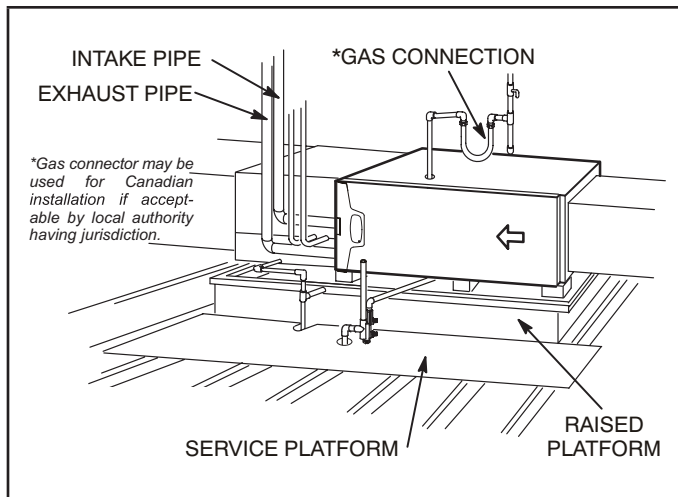

Figure 19
This furnace may be installed in either an attic or a crawlspace. Either suspend the furnace from roof rafters or floor joists, as shown in Figure 18, or install the furnace on a platform, as shown in Figure 19. A horizontal suspension kit (51W10) may be ordered from Lennox or use equivalent.
- 2 - Construct a raised wooden frame and cover frame with a plywood sheet. If unit is installed above finished space, install an auxiliary drain pan under unit. Set unit in drain pan as shown in Figure 19. Leave 8 inches for service clearance below unit for condensate trap.